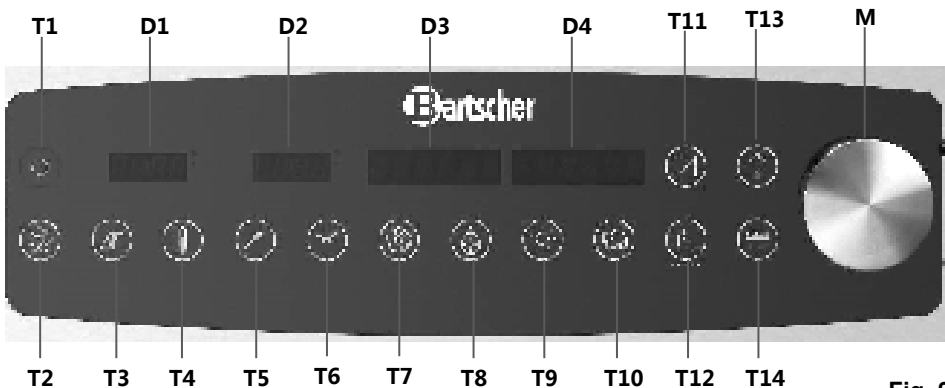

Fig. 9
Rotation of knob **M (fig. 9)** allows for setting the value of selected function (e.g. increase or decrease temperature/time/humidity).
The entered value is confirmed by pressing knob **M (fig. 9)** or appropriate key.
**Hint: pressing knob M (fig. 9) allows for deactivation of an alarm.**
Pressing and holding key **T1 (fig. 9)** for 3 seconds turns the device on or off. After turning on the device is in the standby mode and waits for setting of the cooking parameters.
After turning the device off by longer pressing the main switch **T1 (fig. 9)** the cut-off valve before the device is closed.
Pressing of key **T14 (fig. 9)** allows for starting or stopping of the cooking process. Door opening interrupts the cooking process. After closing the door the already started cooking process is continued from the interruption point. The ongoing cooking cycle may be interrupted with use of key **T14 (fig. 9)**.
Press and hold key Esc **T12 (fig. 9)** until the initial settings are restored. Then press key **T14 “Start/Stop” (fig. 9)** to start cooling. Only then it is allowed to **close the door**. Cooling of the device chamber operates only when the temperature measured in the chamber exceeds 50°C.
In order to turn the illumination on press key **T13 (fig. 9)**. The illumination turns off automatically after the defined time or after pressing key **T13 (fig. 9)** again.